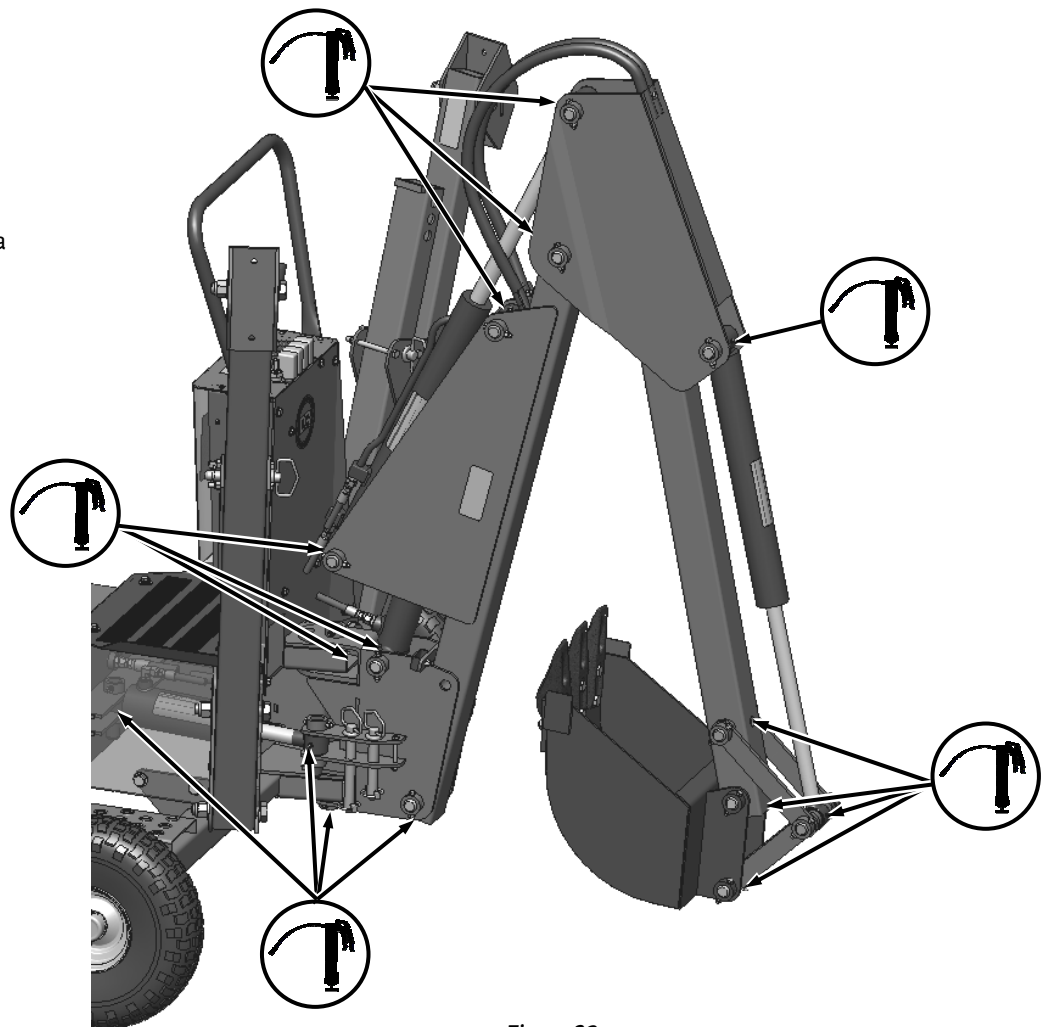

Figure 32
4. Grease the Backhoe at all fifteen Grease Fittings (**Figure 32**) until you notice grease escaping from the joint.